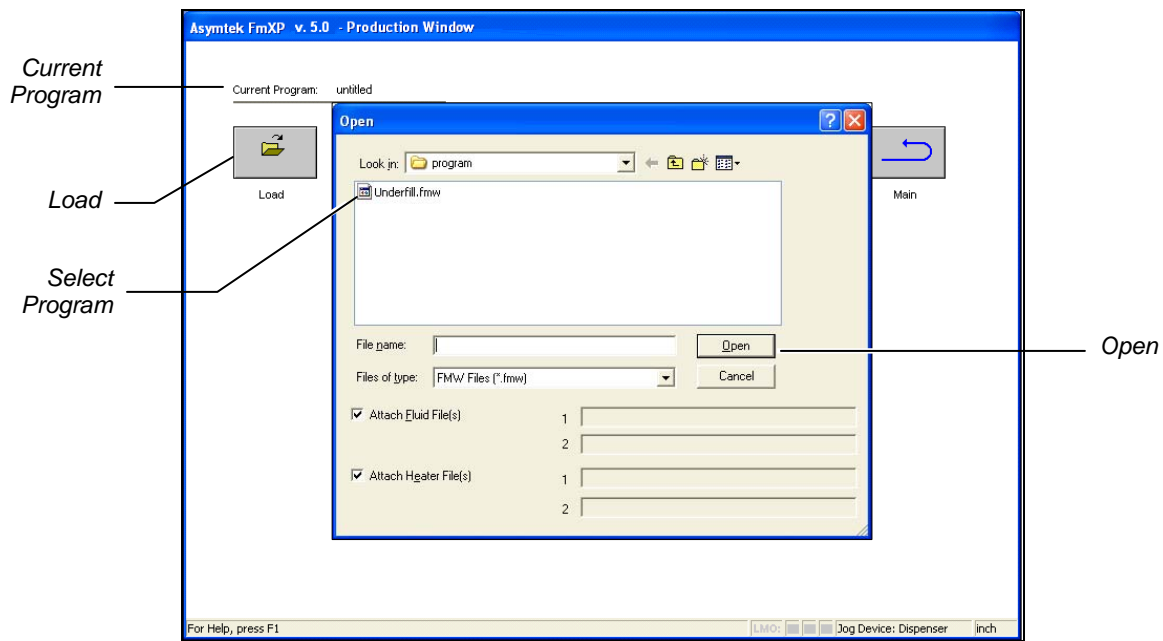

Figure 3-17 Production Window – Load Program
5. In the Production Window, click on the **Load** button (Figure 3-17).